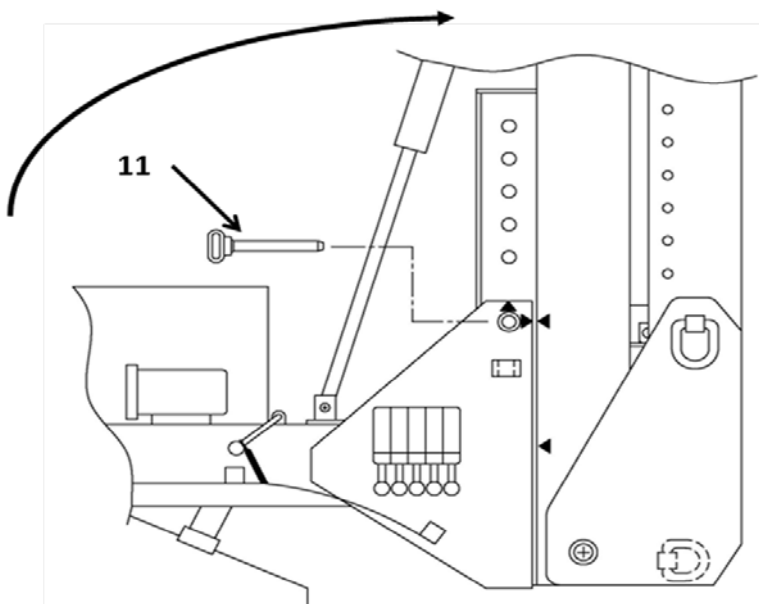

Figure 7 - Mast Vertical/Flush position for pin removal
8. Remove pivot pins. (11) (Figure 7).